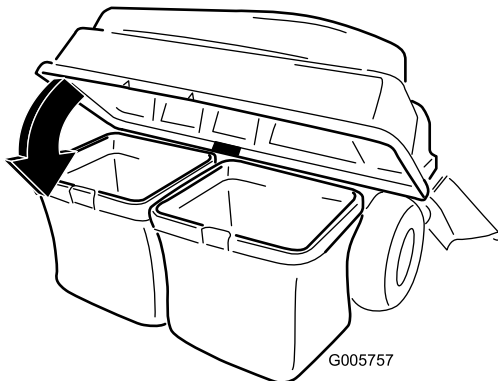

Figure 15
- Lower the bagger top onto the bag (Figure 15).